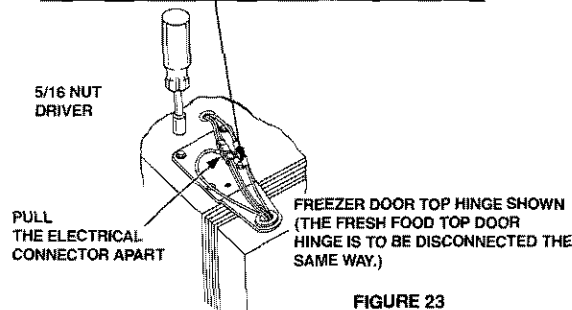

FIGURE 23
- Disconnect top hinge door wires. See Figure 23.
- Remove the upper door hinges, (3) three screws per upper hinge. See Figure 23.